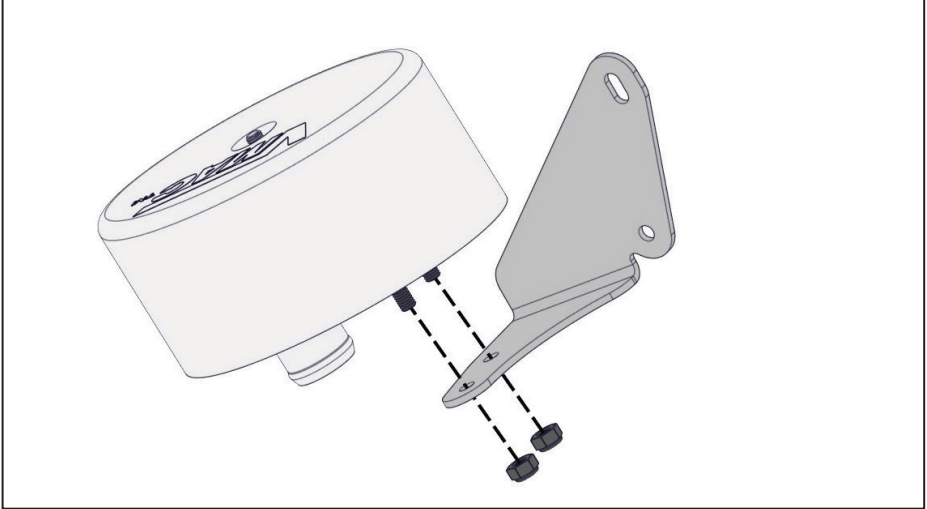

Figure 62 — Air filter and bracket
- Mount the VMAC air filter assembly to the supplied bracket using the supplied M6 nylon lock nuts (Figure 62).